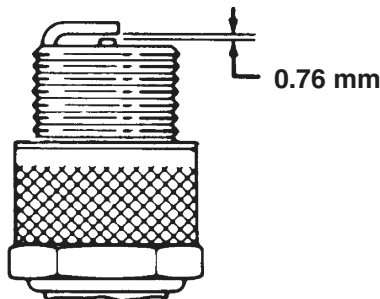

Figure 29
4. Set the air gap between the center and side of the electrodes at 0.030 in. (0.76 mm) (Fig. 29). Install the correctly gapped spark plug and tighten the plug to 14 ft.-lb. (20 N•m).